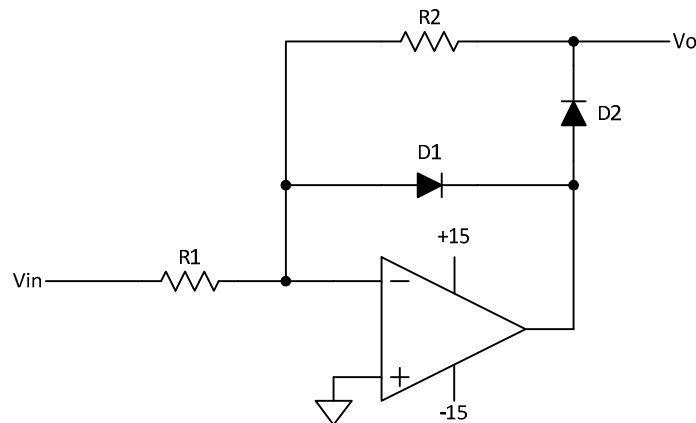

Figure 4: Precision half-wave rectifier
- 4.0 **Precision half-wave rectifier.** By incorporating the diode in the feedback loop of the op-amp the rectification non-linearity for small signals is reduced by the gain of the amplifier thus enabling small signals to be accurately rectified. In the circuit in Figure 4, the diode, D2 is used as the rectifier and D1 provides a path for current when D2 is reversed biased. Observe that the node at the inverting input of the op-amp remains at zero volts for either polarity of V_{in} – any difference from zero is highly amplified and fed back through either the D1 or D2 paths to force the inverting input towards zero.
- 4.1 Build the circuit in Figure 4 using $R_1 = R_2 = 10K$ and $D_1 = D_2 = 1N4148$. Note that the inverting and inverting terminals are shown in different places than previously – both symbologies are common.